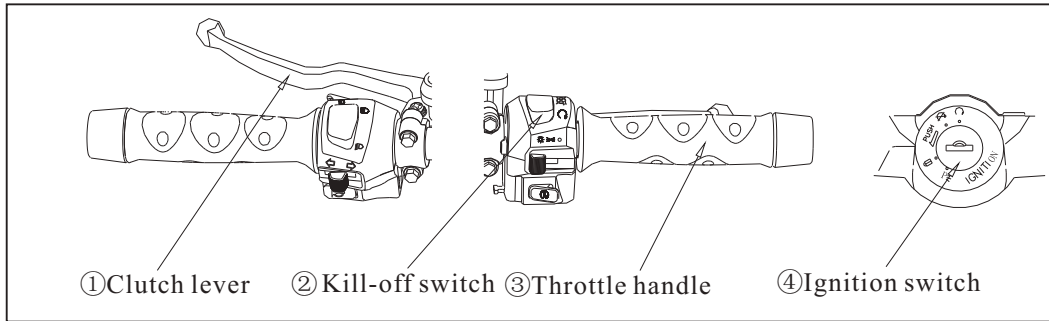

Figure11 Start-up Preparation
(3) Start-up of Motorcycle (Figure11)